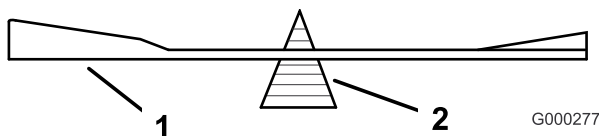
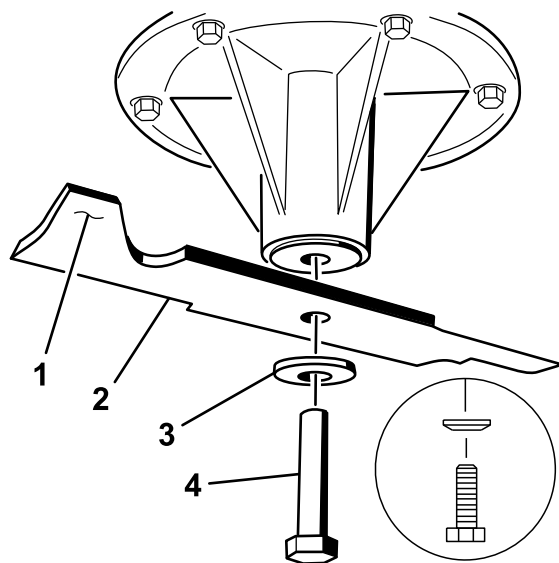

Figure 93
Figure 94
2. Check the balance of the blade by putting it on a blade balancer (Figure 93). If the blade stays in a horizontal position, the blade is balanced and can be used. If the blade is not balanced, file some metal off the end of the sail area only (Figure 94). Repeat this procedure until the blade is balanced.
1. Install the blade onto the spindle shaft (Figure 94).
2. Install the spring disk and blade bolt. The spring disk cone must be installed toward the bolt head (Figure 94). Torque the blade bolt to 85-110 ft-lb (115-150 N-m).